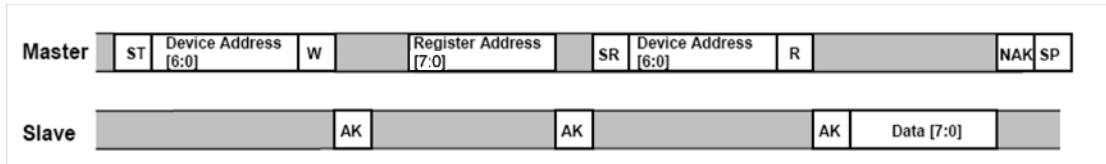

Figure 6. Single Byte Read - The Master is reading one address from the MMA7455L
The MMA7455L has an 10-bit ADC that can sample, convert and return sensor data on request. The transmission of an 8-bit command begins on the falling edge of SCL. After the eight clock cycles are used to send the command, note that the data returned is sent with the MSB first once the data is received. Figure 6 shows the timing diagram for the accelerometer 8-bit I2C read operation. The Master (or MCU) transmits a start condition (ST) to the MMA7455L, slave address (\$1D), with the R/W bit set to "0" for a write, and the MMA7455L sends an acknowledgement. Then the Master (or MCU) transmits the 10-bit address of the register to read and the MMA7455L sends an acknowledgement. The Master (or MCU) transmits a repeated start condition (SR) and then addresses the MMA7455L (\$1D) with the R/W bit set to "1" for a read from the previously selected register. The Slave then acknowledges and transmits the data from the requested register. The Master does not acknowledge (NAK) it received the transmitted data, but transmits a stop condition to end the data transfer.